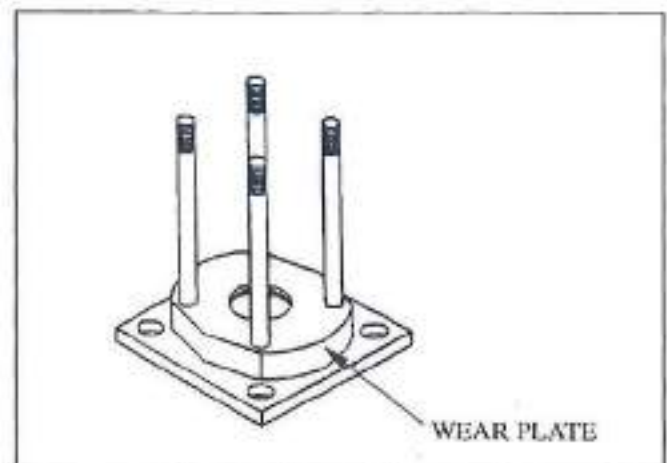

Figure 40
2. Install the wear plate over the studs. The smaller bore goes up. See Figure 40.